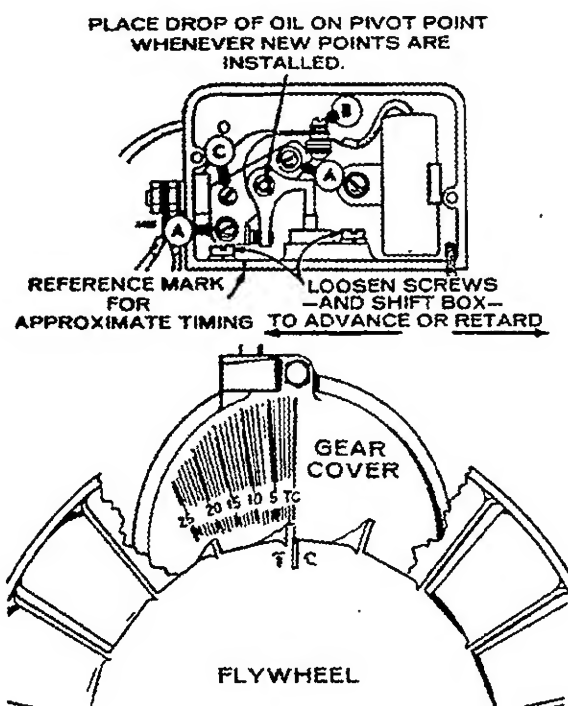

FIGURE 35. IGNITION TIMING
- 3 Remove the two mounting screws (A) and pull the points out of the box just far enough so screw (B) can be removed. See Figure 35. Replace points with a new set but do not completely tighten mounting screws (A).
4. Rotate the engine clockwise (facing flywheel) by hand until points are fully open. Turn screw (C) until point gap measures .020 inch (0.51 mm) with a flat thickness gauge.
Each time new breaker points are installed, place a drop of oil on the point's pivot point (Figure 35).